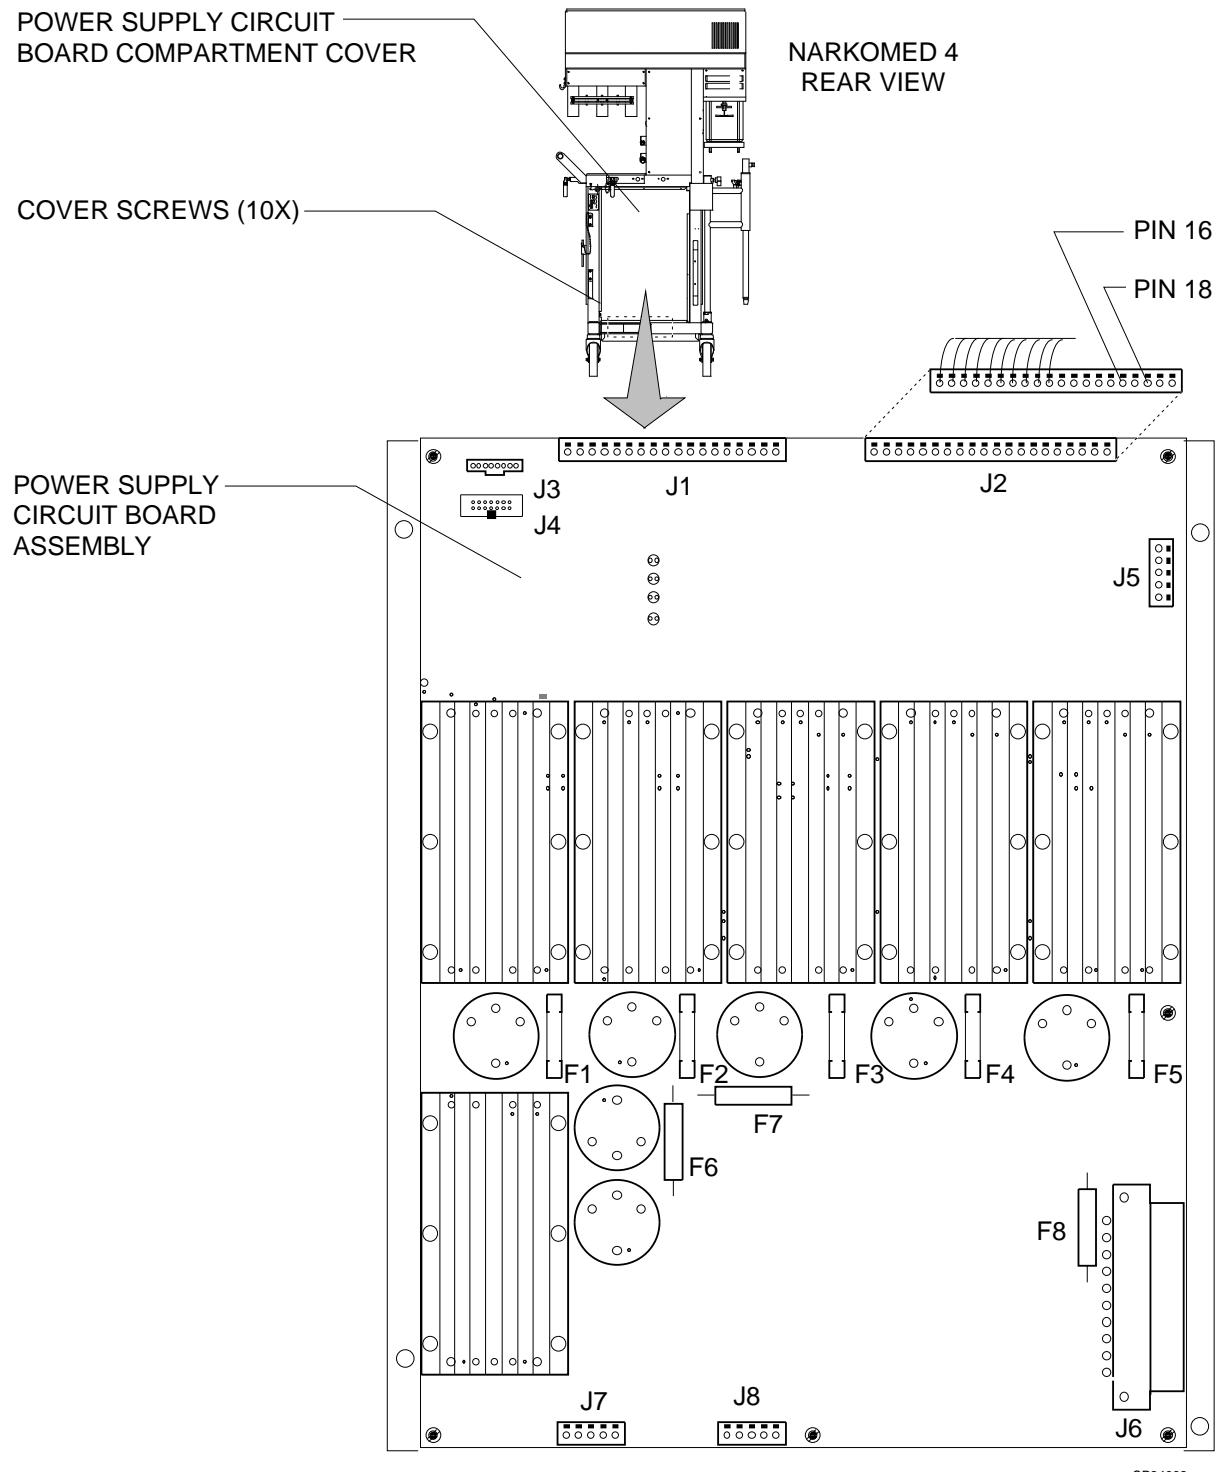

Figure 3: POWER SUPPLY (J2) WIRE HARNESS CHANGES
16. Remove the power supply circuit board compartment cover from the rear of the machine. See Figure 3.